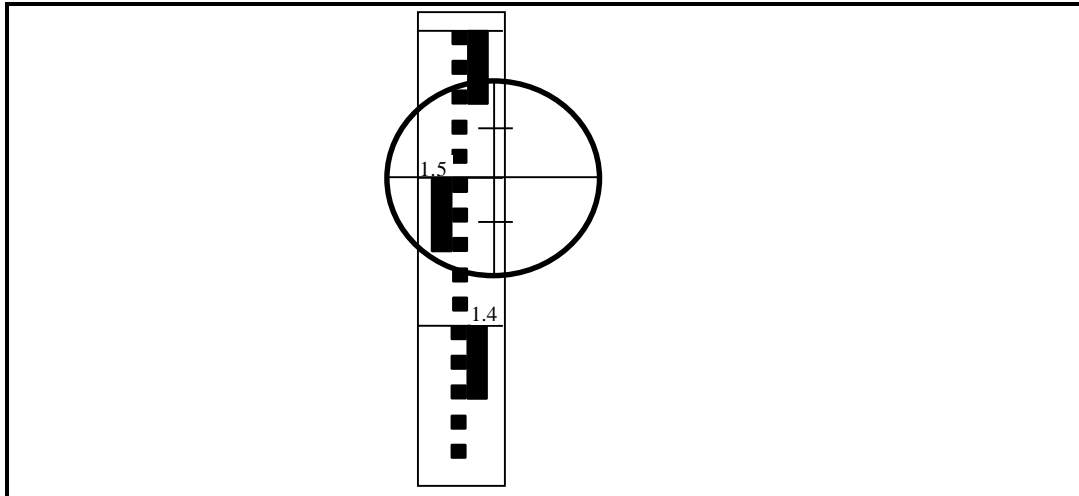

FIGURE 2.3
- 2.3 FIGURE 2.3 below shows the readings of a dumpy level on a telescopic staff. Answer the following questions with regard to the readings.